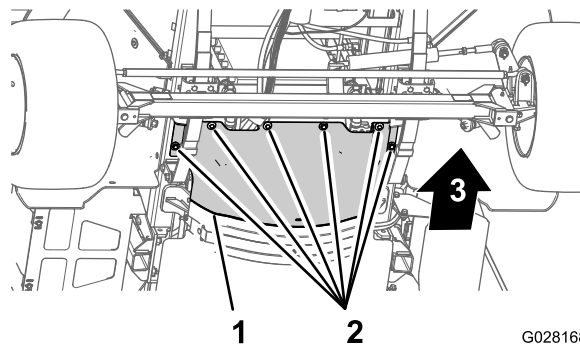

Figure 56
3. Remove the 6 hex-head bolts and 6 washers that secure the front, forward heat shield to the chassis and remove the shield (Figure 56).